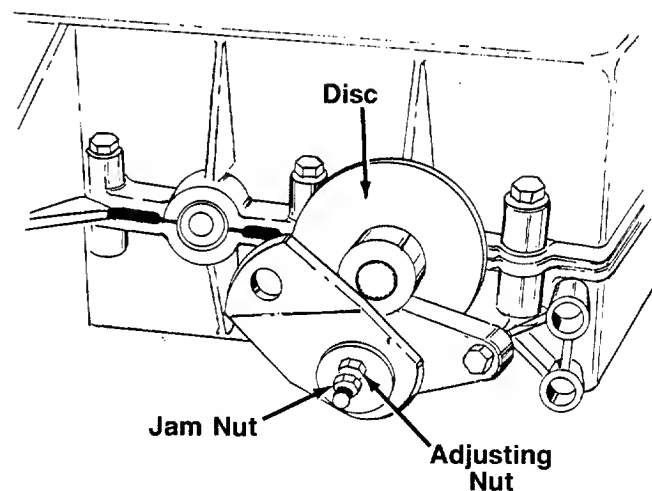

FIGURE 13.
1. Loosen the jam nut. See figure 13.